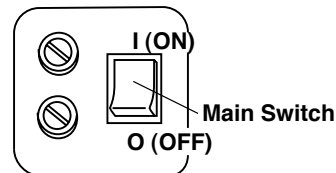

Fig.4-1 Main Switch
### 4-1. MAIN SWITCH (Fig.3-1 & Fig.4-1)
#### (2) Mouth Rinsing Position Adjustment (Fig.4-1)